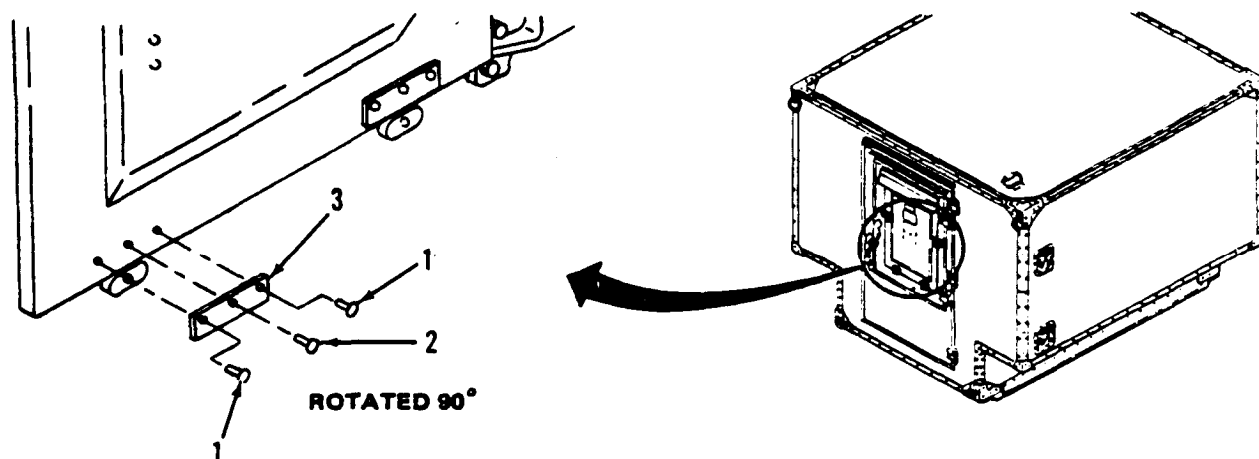

Figure 3-32. Louver Cover Assembly Strike Replacement.
**Replace.** (Figure 3-32)
- (1) Remove two countersunk head rivets (1) and one dome head rivet (2) attaching each strike (3) to louver cover, and remove strike (3). (Refer to paragraph 3-9.a for rivet removal instructions.)
- (2) Position strike (3) on louver cover, Dip mounting rivets in sealer.
- (3) Secure strike (3) with two countersunk head rivets (1) and one dome head rivet (2). (Refer to paragraph 3-9.a for rivet installation instructions.)